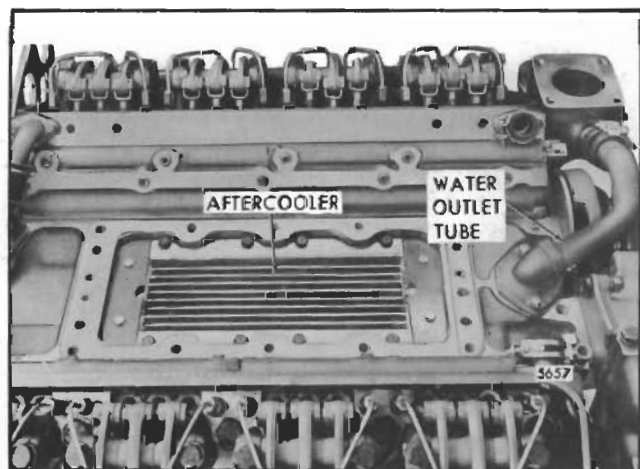

Fig. 1 - Aftercooler Mounted in Cylinder Block
The aftercooler mounts in the cylinder block opening between the cylinders, beneath the blower assembly (Fig. 1). The aftercooler (Fig. 2) cools the air going into the engine after it passes through both the turbocharger and the blower. The air flows downward through the aftercooler and the coolant flows from rear to front through the aftercooler and returns through the left bank thermostat housing (6 and 8V engines) and to the water manifold (16V engine).
6. Remove and discard the 5/16"-18 x 9/16" attaching bolts with nylon locking patch and lift the aftercooler from the cylinder block opening between the cylinders. *Do not remove the four bolts in the top face of the aftercooler (Fig. 1). They are part of the aftercooler assembly and need not be removed for any reason.*